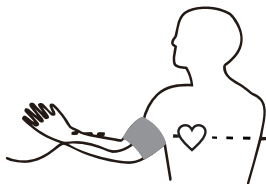

FIGURE 5: Securing the Velcro cuff to the arm
- c) Lay your arm on a table, with the palm turned upwards so as the cuff is level with the heart. See Figure 5. If further height, to be at heart level, is required place a folded towel beneath the arm. Ensure the cuff and towel do not touch. Ensure legs are uncrossed, both feet are flat on the floor with your back and arm supported.